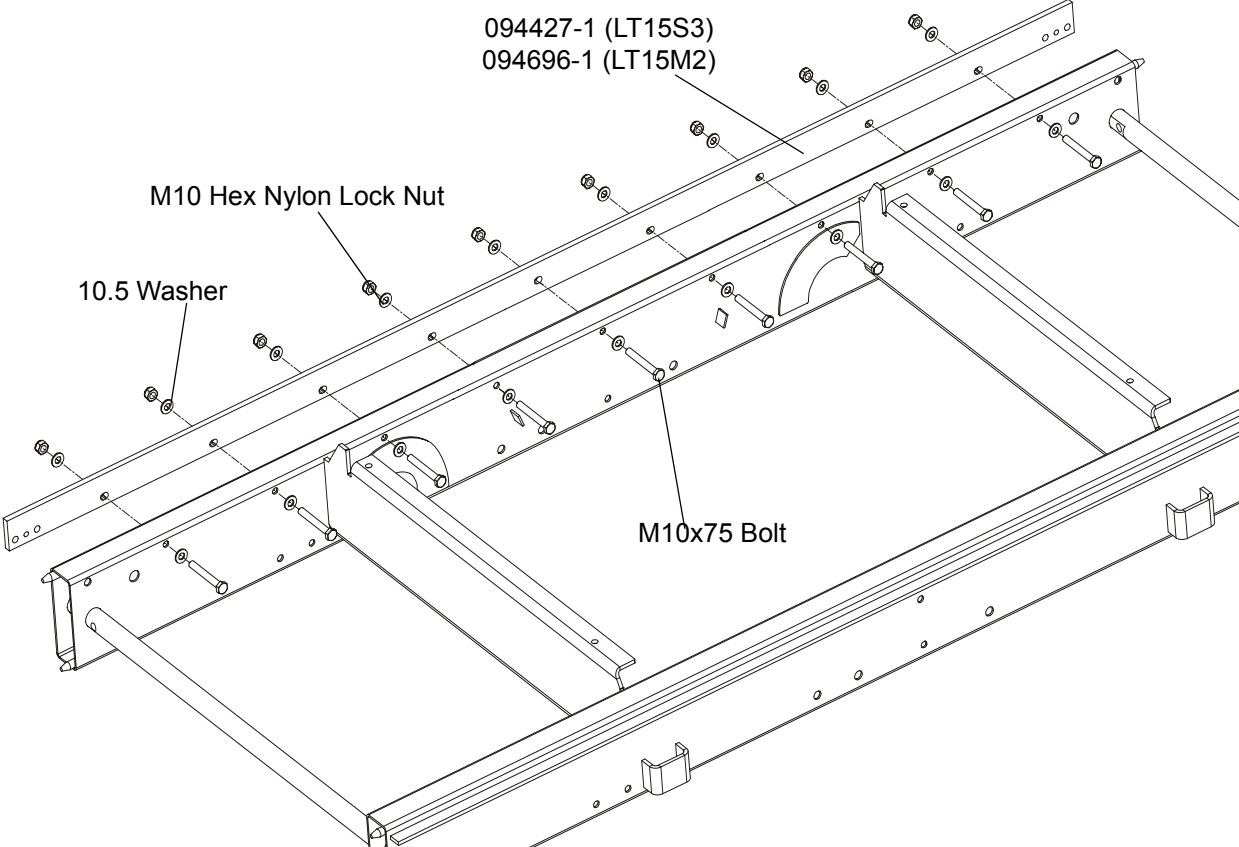

FIG. 2-2
- 1. Mount preliminarily the track rail as shown in Figure 2-2. Do not tighten the nuts.
See Figure 2-2.